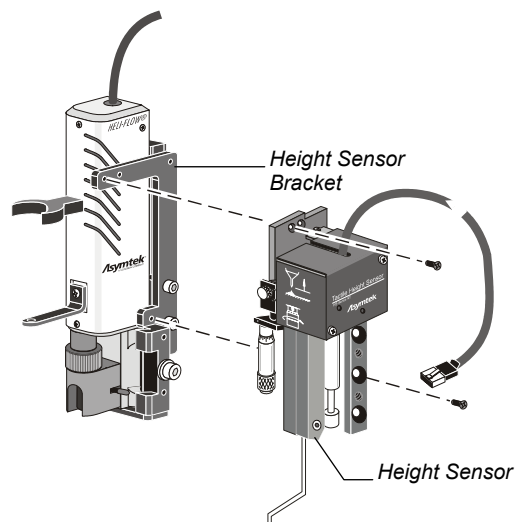

Figure 3-3 Attaching the Height Sensor (Century)
6. Use a Phillips head screwdriver to attach the height sensor to the height sensor bracket (Figure 3-3).